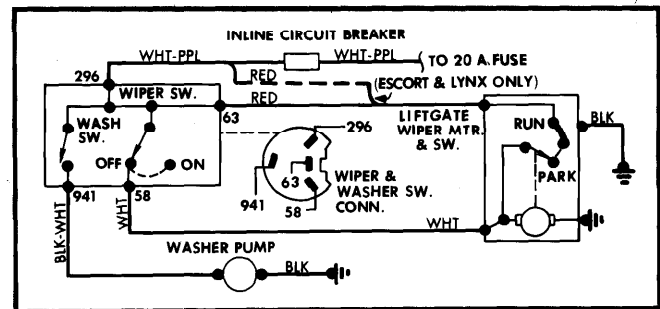

Fig. 1 Ford Motor Co. Rear Wiper/Washer System Wiring Diagram
3) Use an ohmmeter to check switch terminal continuity. With switch "OFF", continuity should exist between terminals 296 and 63. With switch "ON", continuity should exist between terminals 296, 63 and 58. With switch on "WASH", continuity should exist between 296, 63 and 941. See Fig. 1.